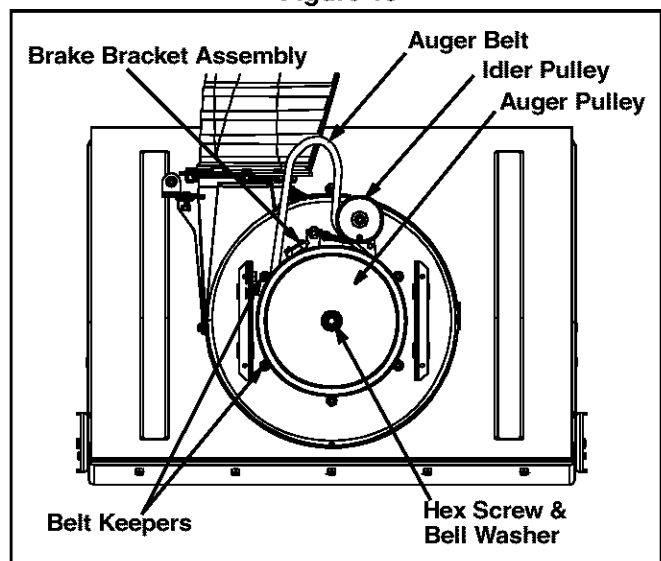

Figure 20
- Using a 1/2” wrench, remove the hex screw and bell washer from the center of the pulley on the auger housing. Lift the brake bracket assembly out of the pulley groove and remove the pulley. Be careful not to lose the key. See Figure 20.